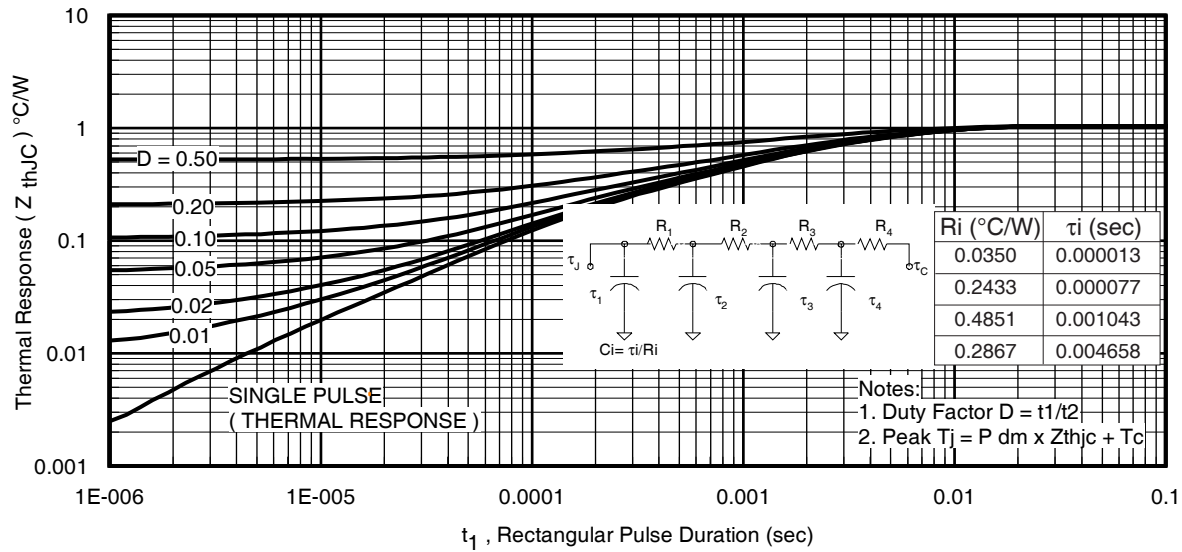

Fig 11. Maximum Effective Transient Thermal Impedance, Junction-to-Case
- ① Repetitive rating; pulse width limited by max. junction temperature. (See fig. 11).
- ② Limited by T_{Jmax} , starting $T_J = 25^\circ\text{C}$, $L = 0.15mH$
$Z_{thJC}(D, t_{av})$ = Transient thermal resistance, see figure 11)